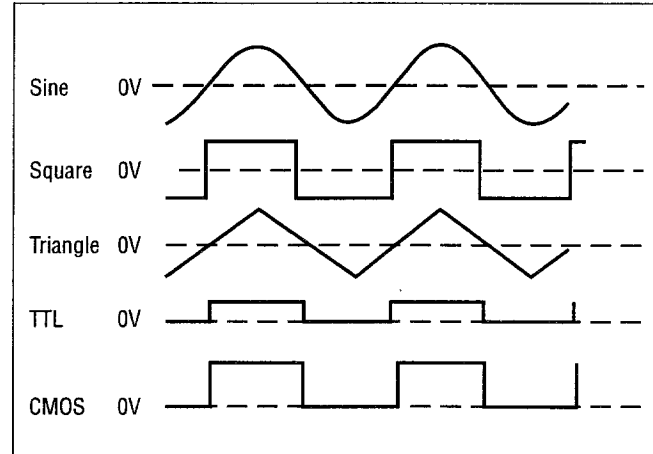

Figure 2. Output Waveform and Phase Relationship
1. Initially, verify that the **DUTY CYCLE** (14), **CMOS LEVEL** (13), **DC OFFSET** (12), **-20dB** (11), switches are in the OUT position (released). This will produce a symmetrical waveform unaffected by the other controls.
2. Plug the unit into an appropriate power source and turn it on by engaging the **POWER** switch (1).
3. Select the desired waveform (SINE, SQUARE, or TRIANGLE) by engaging one of the **FUNCTION** switches (3). Phase relationships of the waveforms are shown in Fig. 2.
4. Select the frequency of the waveform by engaging one of the **RANGE** switches (2). The output frequency is displayed, along with the appropriate measurement units, KHz or Hz (19), on the LED display.
5. Rotate the **COARSE** (16) frequency control to quickly set the output frequency to the approximate desired value. The **FINE** (15) frequency control can then be used to easily set the output to the specific desired value. The frequency selected is available at the **OUTPUT** jack (6). In addition, a digital signal, either TTL or CMOS is available at the **TTL/CMOS** jack (7) (refer to the "TTL/CMOS OUTPUT" section of this manual).